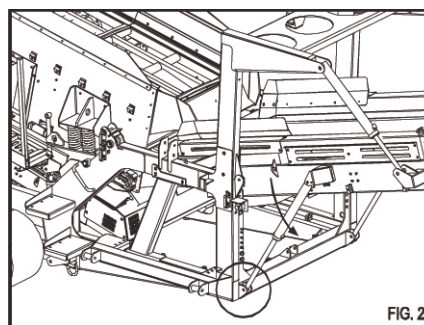

Figure 6.25 - Ram Pinned in Place
3. Extend the ram and locate the head of the ram into the cleats mounted on the chassis, as shown in Figure 6.25. Pin in place.